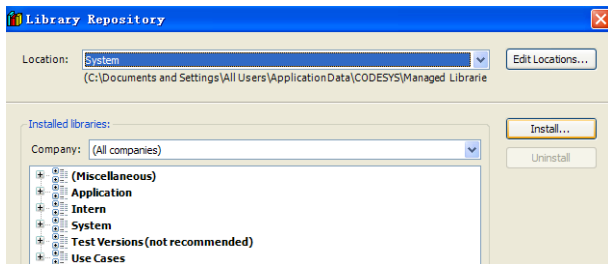

Figure 4-2
2. Click **Install** to install the library file *CmplNVT\_V100.library*, as shown in Figure 4-2. Select **Library files** during the installation in the dialog box for choosing the file to be installed.